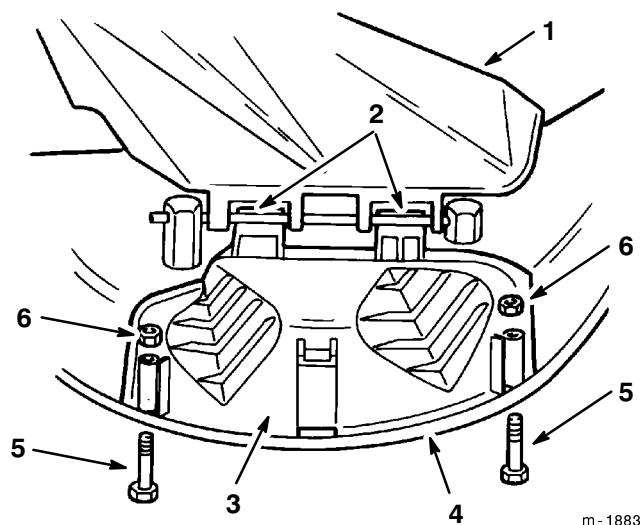

Figure 12
2. Lift the grass deflector and slide the tabs on top of the discharge cover under the grass deflector retaining rod. Rotate the discharge cover down over the opening, and onto the lower lip of the mower (Fig. 12).
3. Secure the discharge cover to the lower lip of the mower with bolts and nuts (Fig. 12).